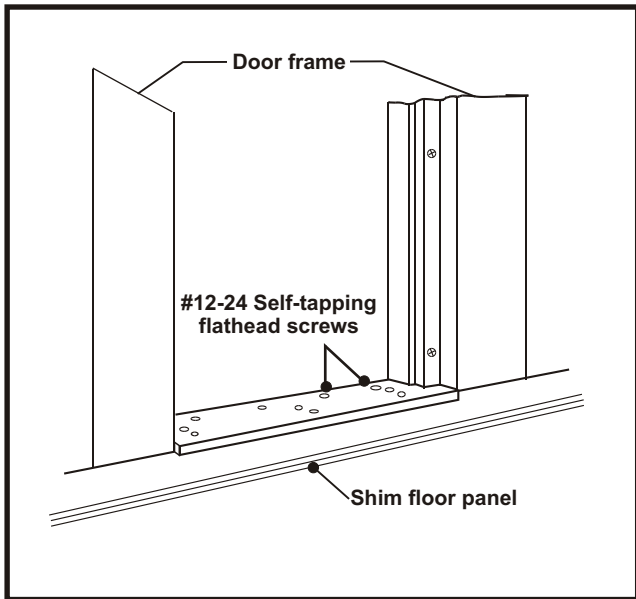

Fig. 18
- G. Secure the door stepplate to the walk-in floor. With the door open, use a 3/16" diameter bit to drill through the prepunched holes of the stepplate. Secure the stepplate with #12-24 self-tapping flathead screws. See Fig. 18.